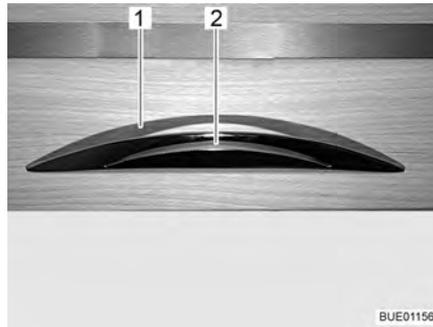

Fig. 43 Furniture flap with release handle
- Press the release handle (Fig. 43,2) and hold it down.
- Pull the release handle (Fig. 43,1) until the furniture flap is open.